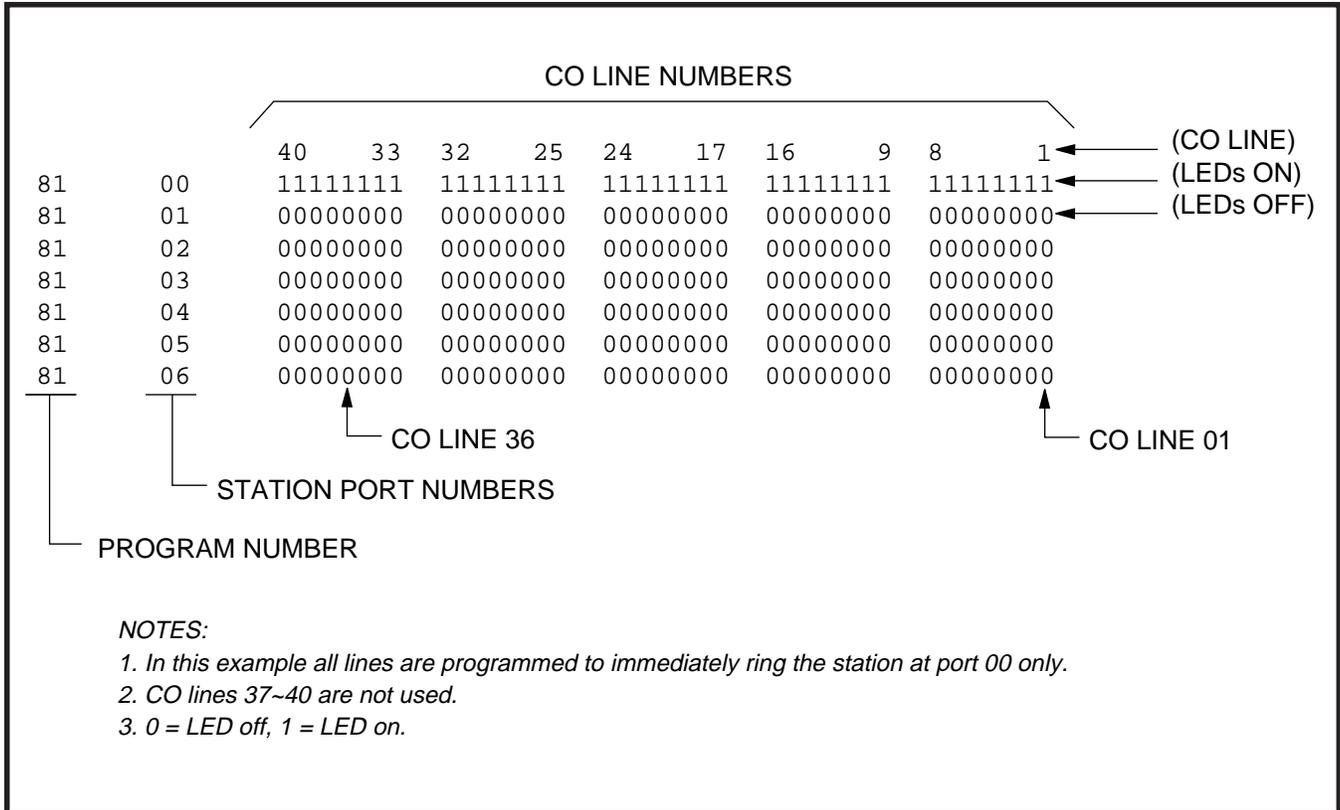

FIGURE 8-23
ing, and transferred calls, as well as Account Code entries. Call record data is printed out at the completion of each eligible call and is ASCII-formatted, 8-bits, no parity, 1-stop bit. Program SMDR with **Program 60**. A display of the customer data base (Figure 8-23) can also be printed out with **Program 97**.
- Allows system program data to be printed via the SMDR port (Figure 8-23).